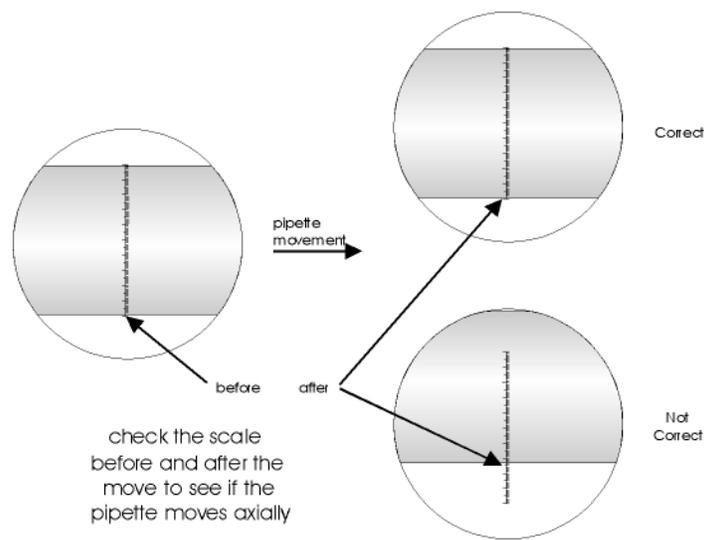

Figure 29. Field of view when aligning the pipette shaft
2. Bring the pipette SHAFT into the field of view. Because the SHAFT region has not been "pulled" its walls are parallel. Using a 10X objective, the walls should line up pretty well with the end marks of the reticule scale bar (Figure 29).